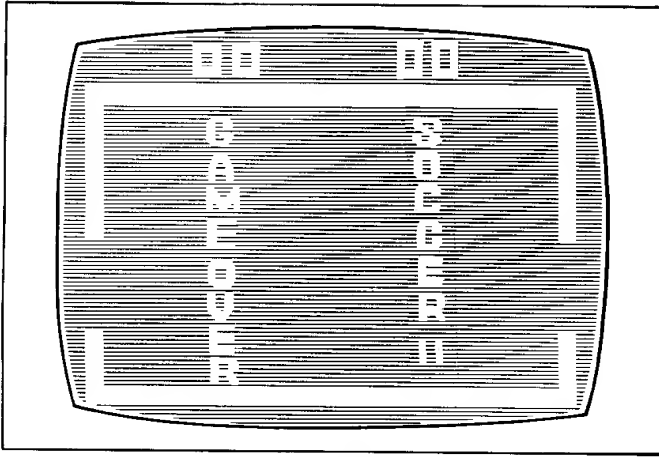

Figure 2-1 Typical TV Monitor Display During Attract Mode
A. ATTRACT MODE (See Figure 2-1)